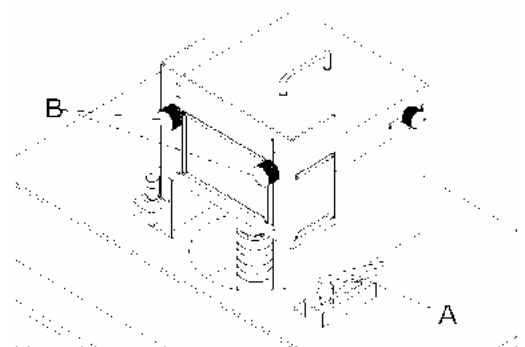

Fig. 3.43
1. Lean the hood on the table, regulate the distance from the cutters and secure the position by tightening the locking levers (A) Fig.3.43, Fig.3.44.
2. Regulate the height of the protection in respect of the cutters by turning the knobs (B)